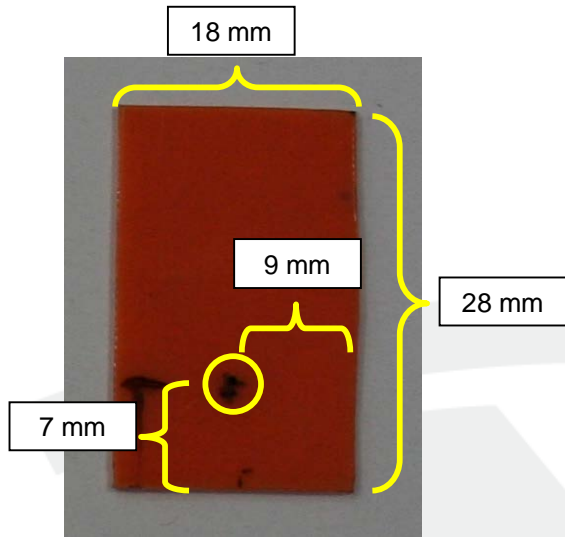
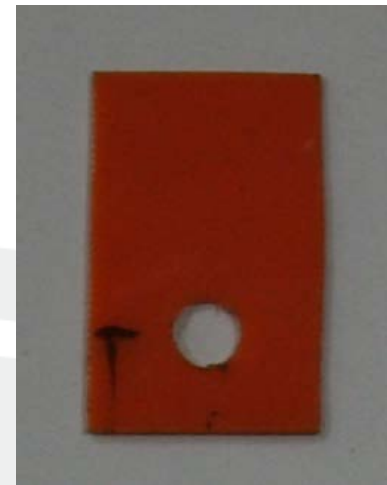

Figure 24
Figure 25
1. Cut 2 pieces of shim stock 28 mm x 18 mm. Place a drill mark 7 mm from one of the short edges and centered 9 mm from each long edge on each shim (Figure 24). Drill the marked area with a 13/64 in bit on each shim (Figure 25).